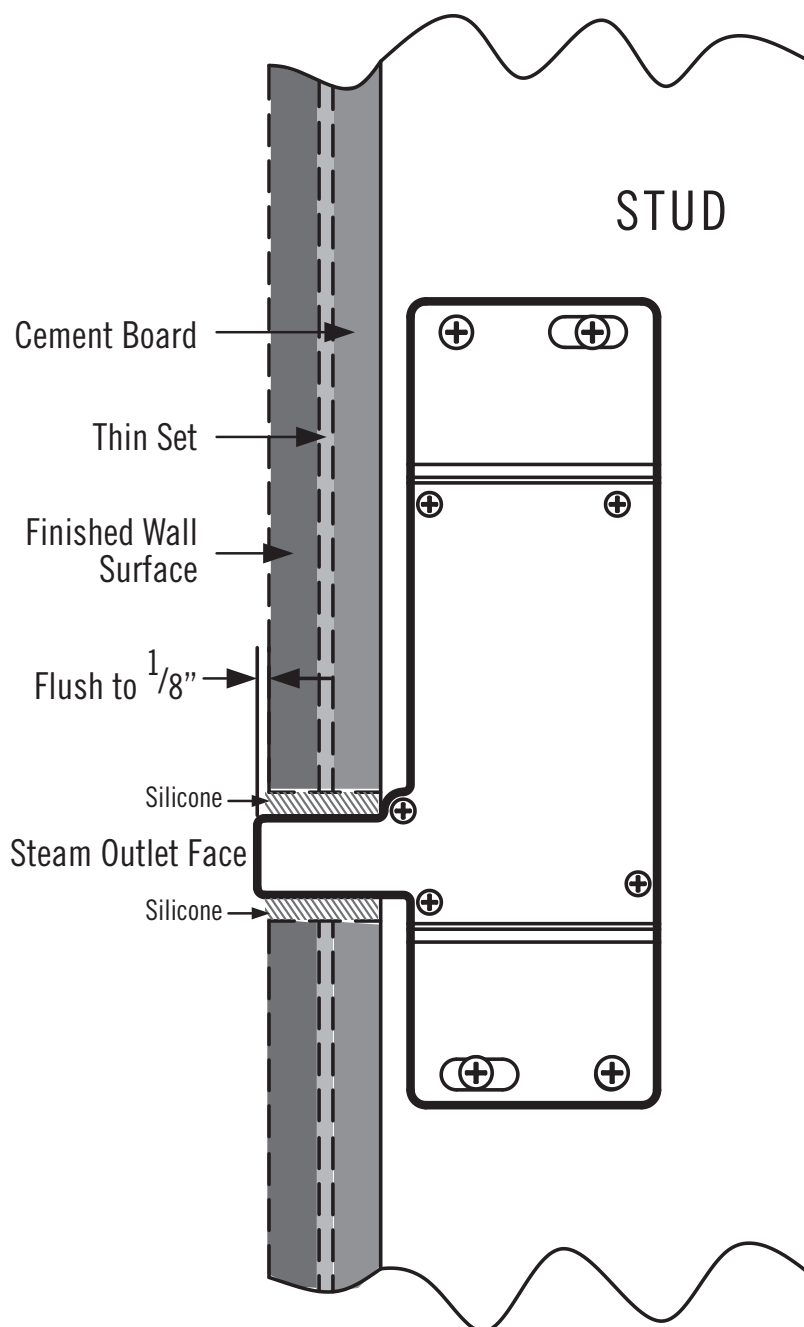

Figure 4
8. After the finished wall surface has been installed use high temperature caulking around the steam outlet as required to make a waterproof seal. (see Fig. 4)